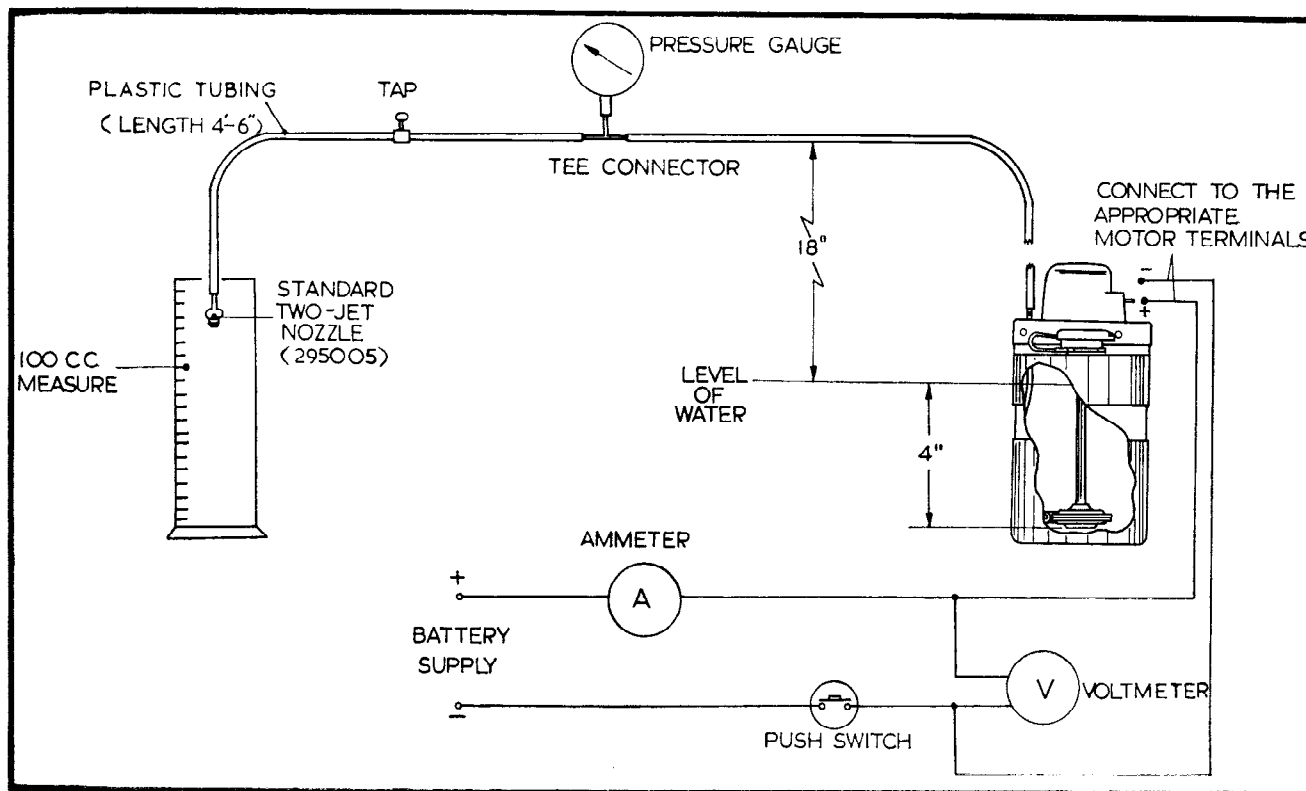

Fig. 2.
- (i) Connect up the equipment as shown in Fig. 2. The water level in the container must be 4" (101.6 mm.) above the base of the pump assembly. The pressure gauge and nozzle must be 18" (457.2 mm.) above the water level.